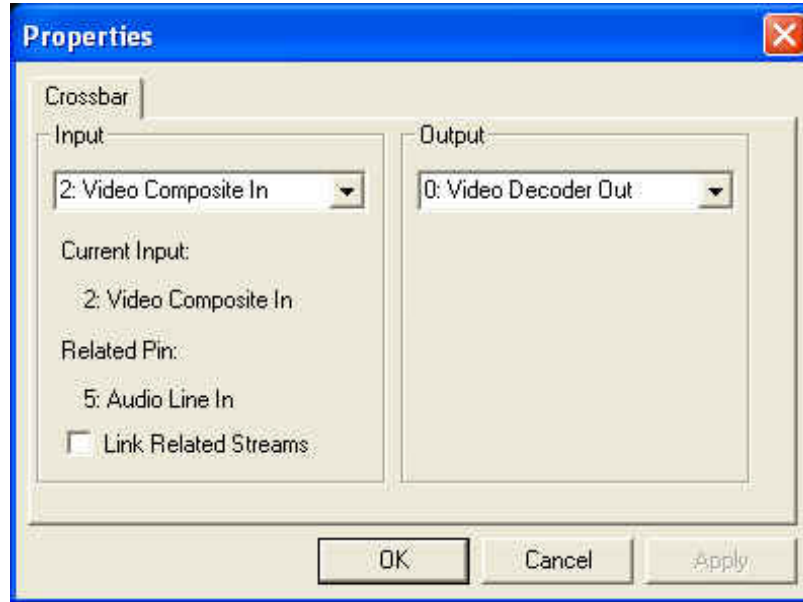

Figure 4. Video Capture Crossbar Properties
**"Video Crossbar..."** will display Video Crossbar property pages, from the video capture driver, which allows a user to control how video signals are routed. Select an output from the drop-down list, and see where the signal comes from by checking the Input list. Change the input by selecting from the list. See figure 4.